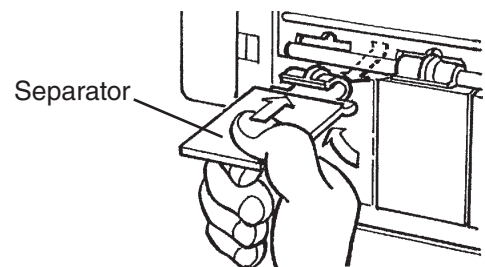

Fig. 39
- 3) Remove each separator by lifting it to the horizontal position and pushing it hard inward. See Fig. 39.